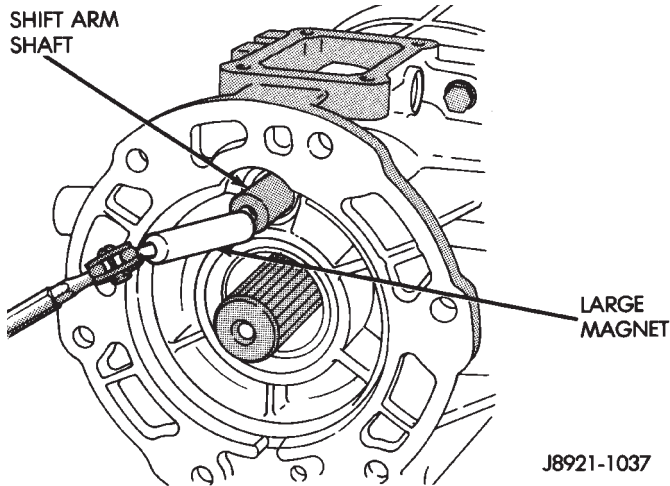

Fig. 26 Remove Shifter Shaft
- (13) Remove shifter shaft with large magnet (Fig. 26).